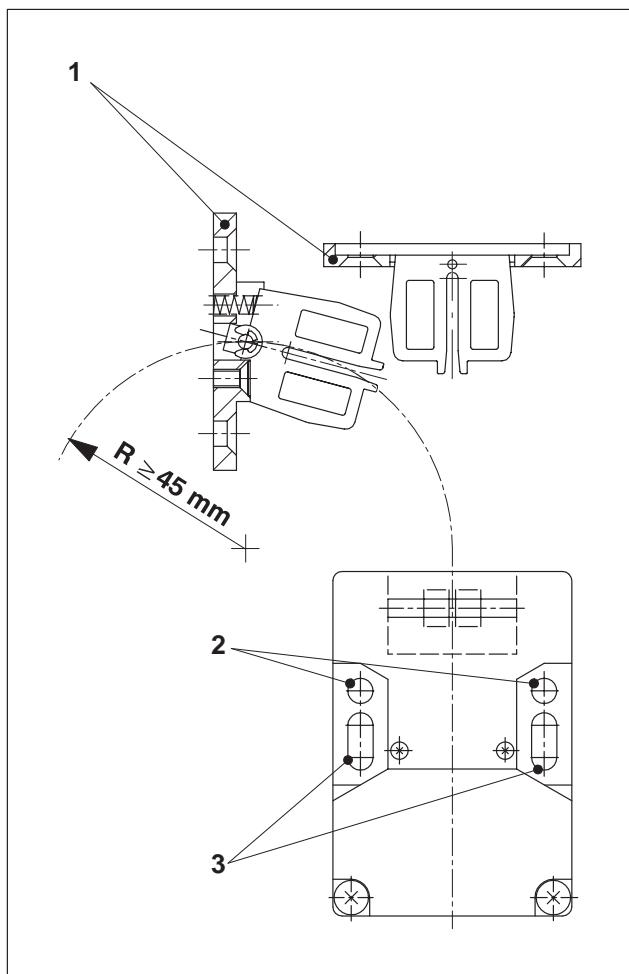

Fig. 5 Key-operated switch with movable and fixed key
- 1 Replace and adjust the switch casing. To fasten the switch casing by means of two Allen screws you may use either the through bores (Fig. 5/2) or the oblong holes (Fig. 5/3).
- 2 Once you have replaced the key (Fig. 5/1), moisten the countersunk screws with thread glue SN 604-S1 and tighten them.